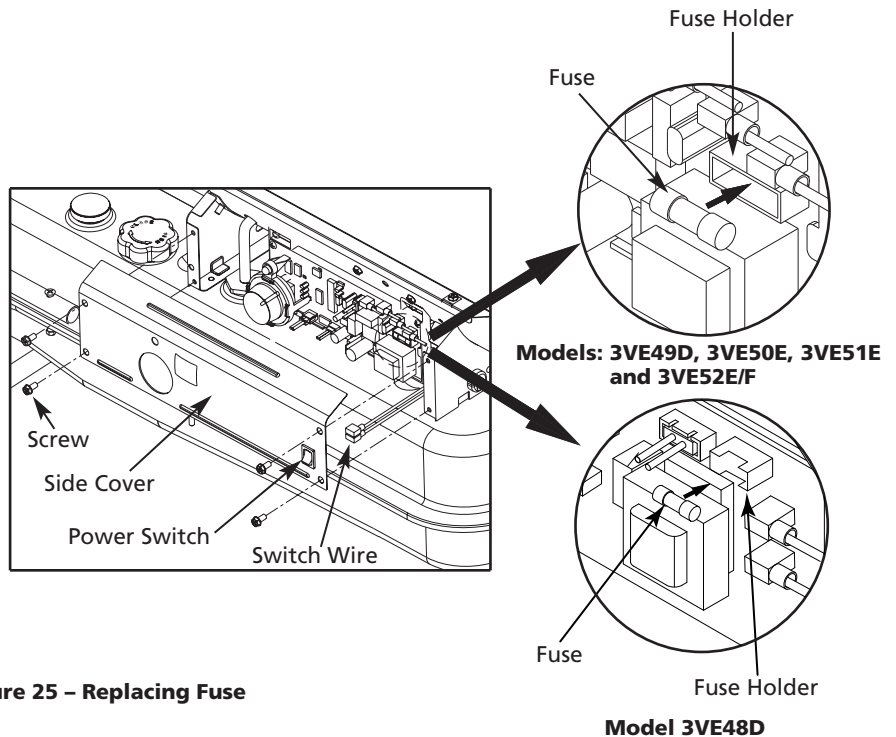

Figure 25 – Replacing Fuse
- Remove fuse from fuse holder (See Figure 25).